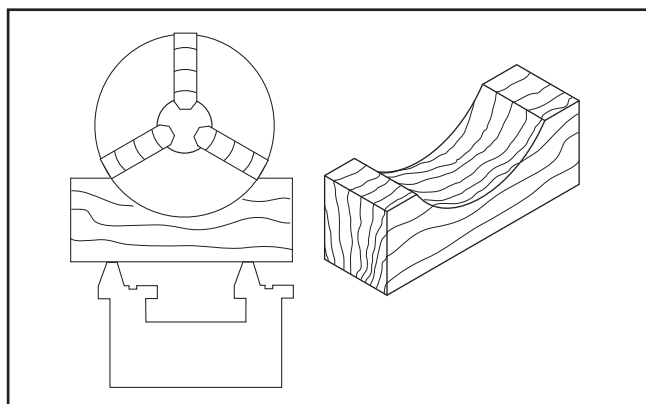

Figure 31. Wooden chuck cradle.
2. Lay a chuck cradle (see **Figure 31**) or plywood under the chuck or faceplate and over the bedway to protect the precision ground surfaces from damage and reduce injury if fingers get pinched.
2. Lay a chuck cradle (see **Figure 31** on the previous page) or plywood under the chuck or faceplate and over the bedway to protect the precision-ground surfaces from damage and reduce injury if fingers get pinched.